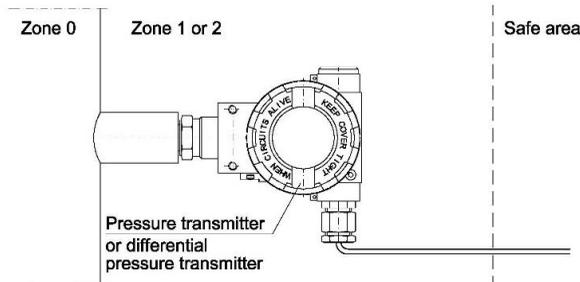
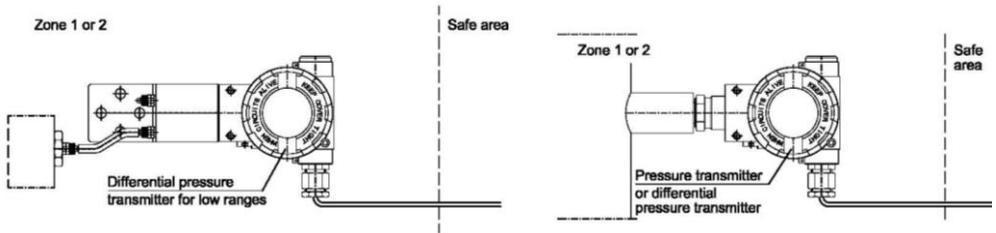

fig.1a
Fig.1b
The category 1/2G (1/2D) means that the transmitter may be installed within a type 1 (21) or 2 (22). hazard zones. The **APC..., APR...** process connections may connect to a 0 (20) zone type (see the fig. 1a below for an example). The category 2G (2D) , means that the transmitter together with process connections may be installed within a type 1 (21) or 2 (22) hazard zones (see the fig. 1b below for an example).